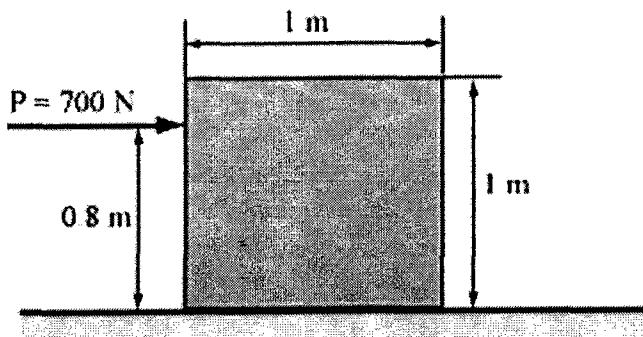

Figure Q1[a]
- Q1. [a]** A uniform 50 kg crate rests on a horizontal surface for which the coefficient of kinetic friction is $\mu_k = 0.2$. Determine the crate's acceleration if a force of $P = 700 \text{ N}$ is applied to the crate as shown in Figure Q1[a].